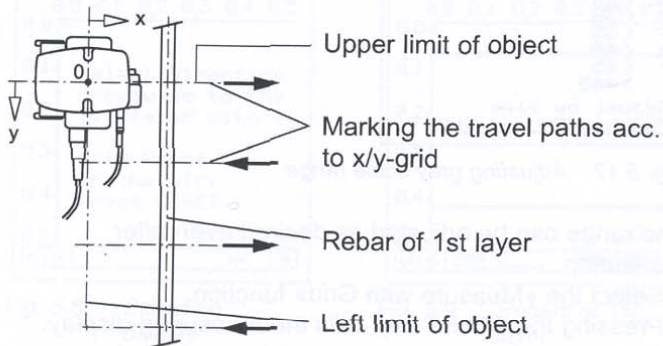

Fig. 5.14 Measuring with the mobile probe
- If the rebars of the first layer run in a vertical direction as shown in Fig. 5.14, the travel paths must be positioned horizontally with the selected grid spacing in direction y. Move the mobile probe along these paths. In Fig. 5.16, pos. 7, the smallest concrete cover measured in a grid field is displayed and stored automatically as grey scale.